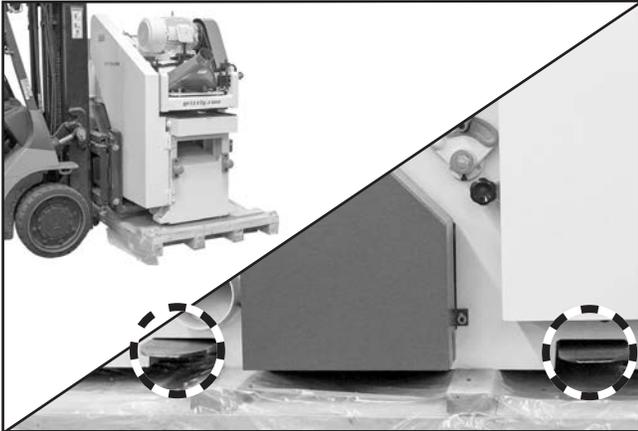

Figure 16. Example of lifting machine with forklift.
- Insert forklift forks through slots on bottom of machine (see **Figure 16**). Slots are 36" on center and accept forks up to 6" wide.